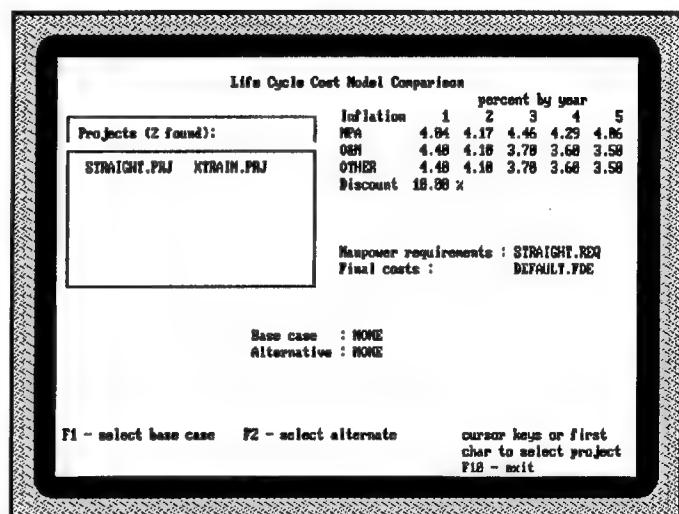
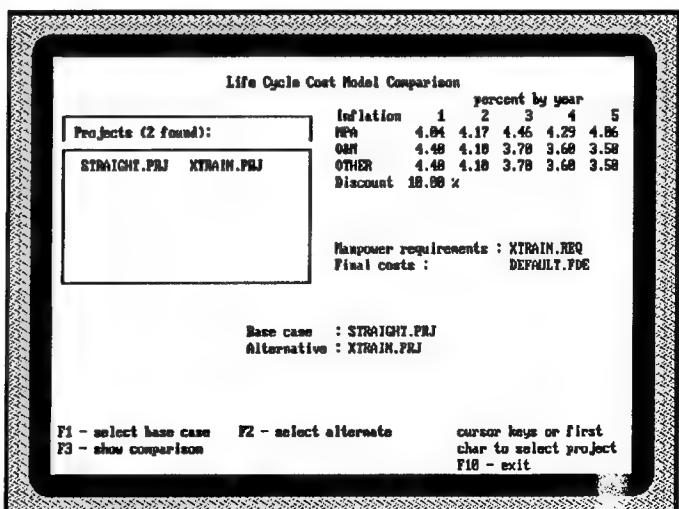

Figure 23.
Figure 24.
**Operation:** When you invoke this menu option, AFMCOS presents a list of projects in the upper left window. The remainder of the screen contains information associated with the currently highlighted project. (Figure 23.) Select a base case by highlighting a project name and pressing <F1>. Similarly, select the alternate case by highlighting a project name and pressing <F2>. You cannot choose a project as either the base or alternate case if it has not been run. The function keys <F1> and <F2> will disappear from the prompt window if you have not run the highlighted project. Once you select base and alternate cases, the function "<F3> - show comparison" appears in the prompt window. (Figure 24.) After pressing the <F3> key, the screen displays the results of the comparison between two projects. Both the total discounted and undiscounted costs by appropriation for the base and alternate projects appear on the screen.